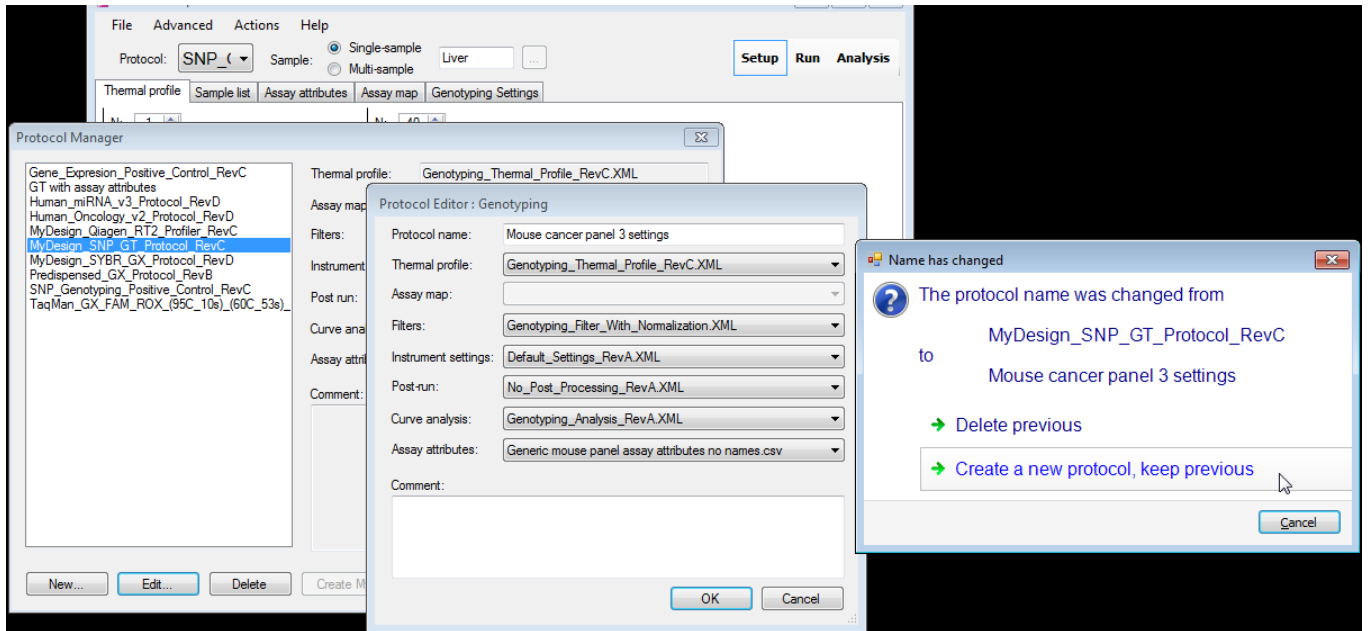

Figure 60. Renaming and saving the new genotyping protocol.
- e. Click [OK]. This will open a *Name has changed* window. We recommend that you choose to **Create a new protocol, keep previous** (Figure 60). This preserves a copy of the default MyDesign SNP genotyping profile on your computer. Close the *Protocol Manager* window by clicking the red [X] icon in the upper-right corner.